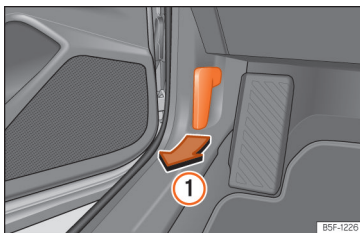

Fig. 207 Release lever in the driver's footwell area.
- Open the door and pull the lever that is underneath the instrument panel >>> **Fig. 207** ①.